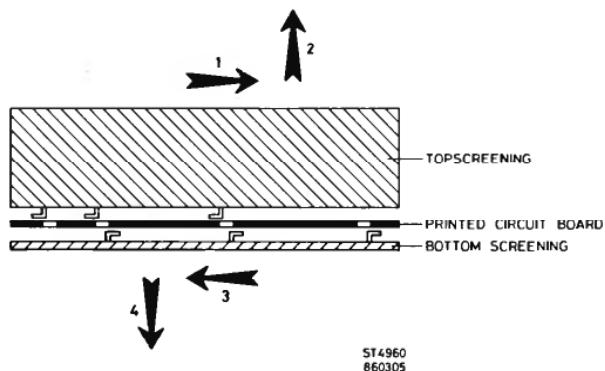

Figure 4.2
(figure 4.2 arrow 1)
- Lift up the screening (figure 4.2 arrow 2)
- Push screening in the direction of the rear (figure 4.2 arrow 3)
- Lift up screening (figure 4.2 arrow 4)